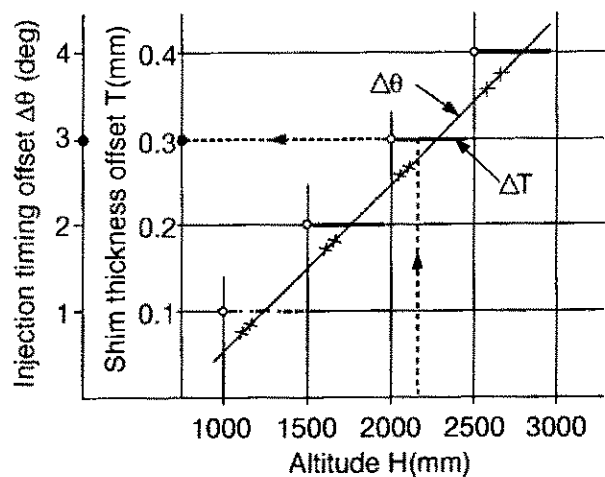

Fig. 7.4.1 Offset shim thickness
- ① Complete adjustment of injection timing  $\theta$  for the lowland and take note of adjustment shim thickness  $T$ .
- ② Obtain shim slickness  $\Delta T$  to be decreased and injection timing  $\Delta\theta$  to be increased based on the altitude  $H$  where the diesel generator is used and the correction shim thickness shown in Fig. 7.4.1.